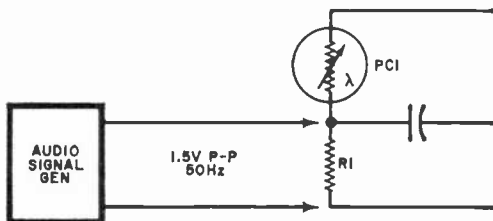

Fig. 5. To calibrate, use an audio signal generator delivering 1.5 volts peak-to-peak at 50 Hz as the input and adjust R7 (through its hole) for 3000 RPM.
**Signal-Generator Method.** Figure 5 shows a calibration setup using an audio signal generator. Set the generator for an output of 50 Hz and 1.5 volts peak-to-peak. Turn on the Op-Tach and set R8 so that the meter reads 500 with S2 depressed. Release S2 and set sensitivity control R2 at its least sensitive point (counterclockwise). You may get a reading with the sensitivity control at this position but if you don't, advance R2 slowly until the meter shows a steady reading. Adjust the range potentiometer, R7, to give a reading of 3000 RPM (the equivalent of 50 Hz). While you have the equipment set up, you may want to check the tachometer at several other frequencies. Remember that indicated RPM is frequency times 60.